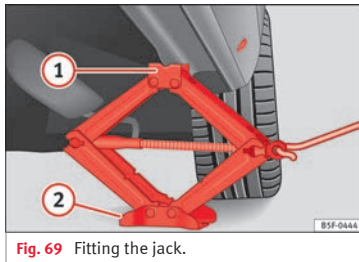

Fig. 69 Fitting the jack.
- Turn the jack* crank handle, located below the strut support point, to raise it until the tab ①»»» Fig. 69 is below the housing provided.
- Align the jack* so that tab ① “grips” onto the housing provided on the strut and the mobile base ② is resting on the ground. The base plate ② should fall vertically with respect to the support point ①.